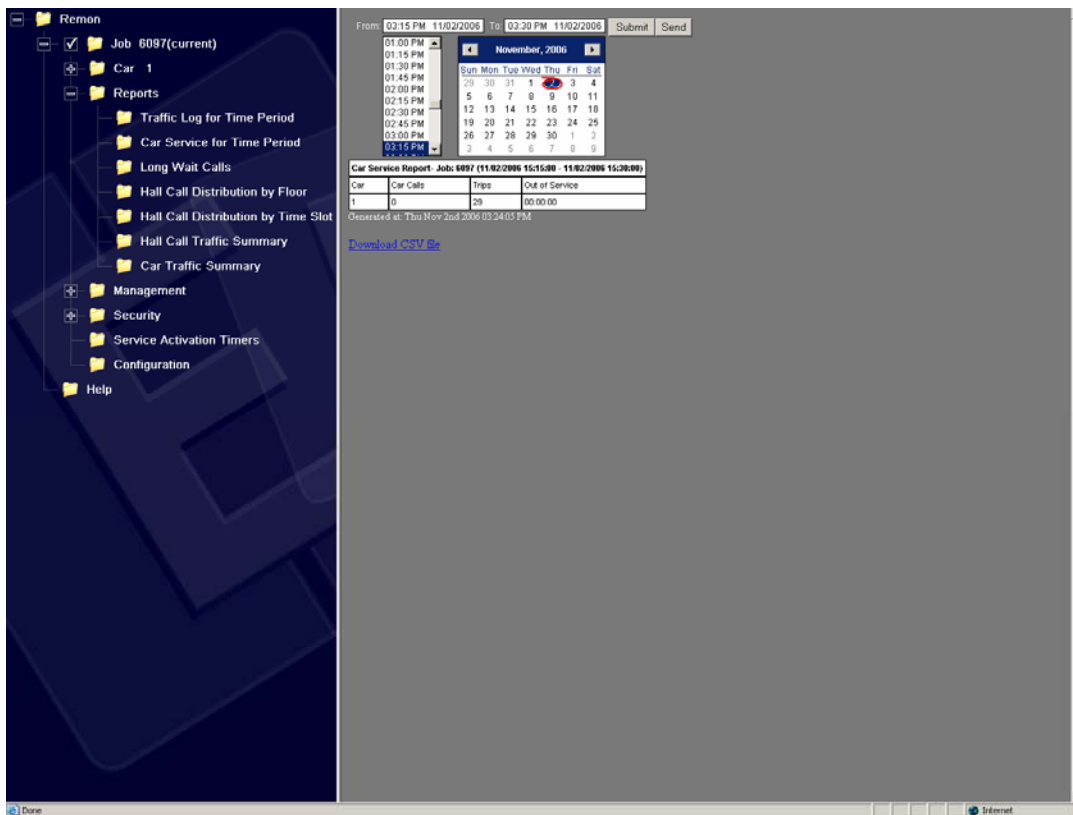

Figure 26. Car Service Report Screen
- Click “Submit” button to display the report in the data display area as shown in Figure 26. Car Service Report Screen. After receiving the report the user can adjust time range and resubmit his request. The report is redisplayed then with different data corresponding to new time range.